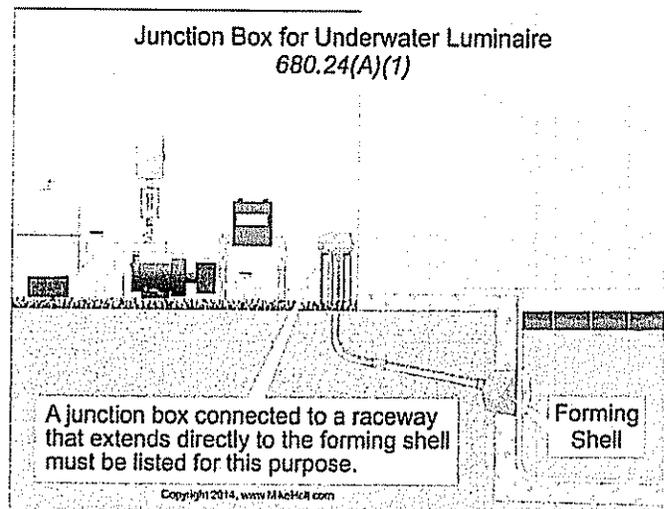

Figure 680-34
**(A) Junction Box.** The junction box (deck box) that connects directly to an underwater permanently installed pool, outdoor spa, or outdoor hot tub luminaire forming shell must comply with the following:
**(1) Construction.** The junction box must be listed as a swimming pool junction box, and must be: Figure 680-34